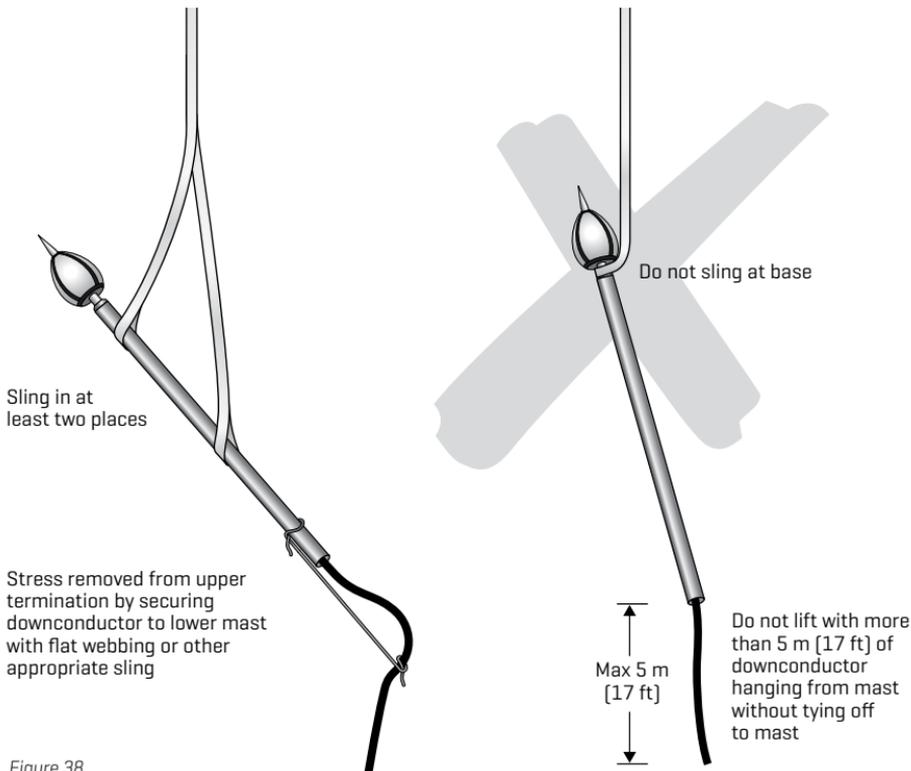

Figure 38.
- When lifting the mast, ensure that the slings or ropes cannot damage the Stormmaster ESE terminal. See Figure 38